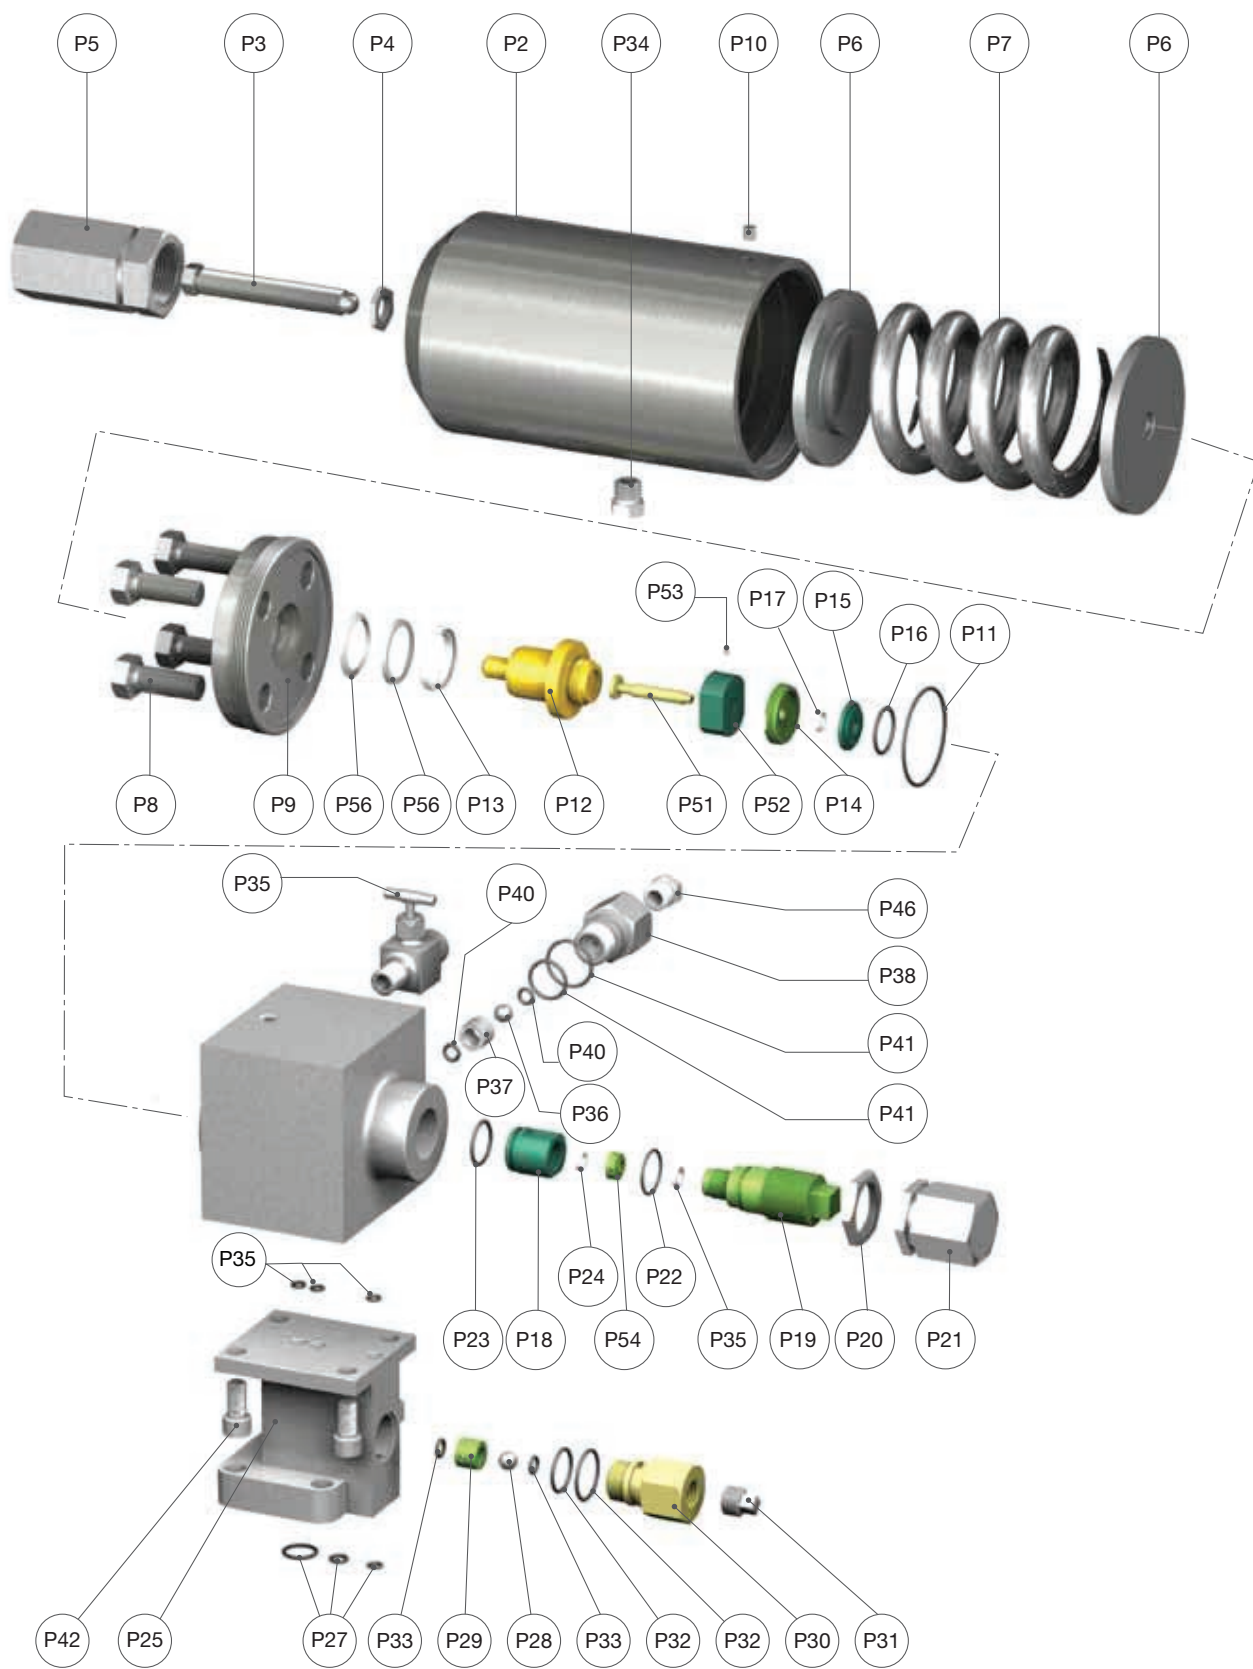

Figure 20: 49MV22 Disassembly
C. 49MV22/72 (Figures 20, 21, and 18)
3. If a lifting lever is installed, also use Figure 18 to remove the Lifting Lever assembly. Then return to Figure 20 or 21 to continue disassembly.